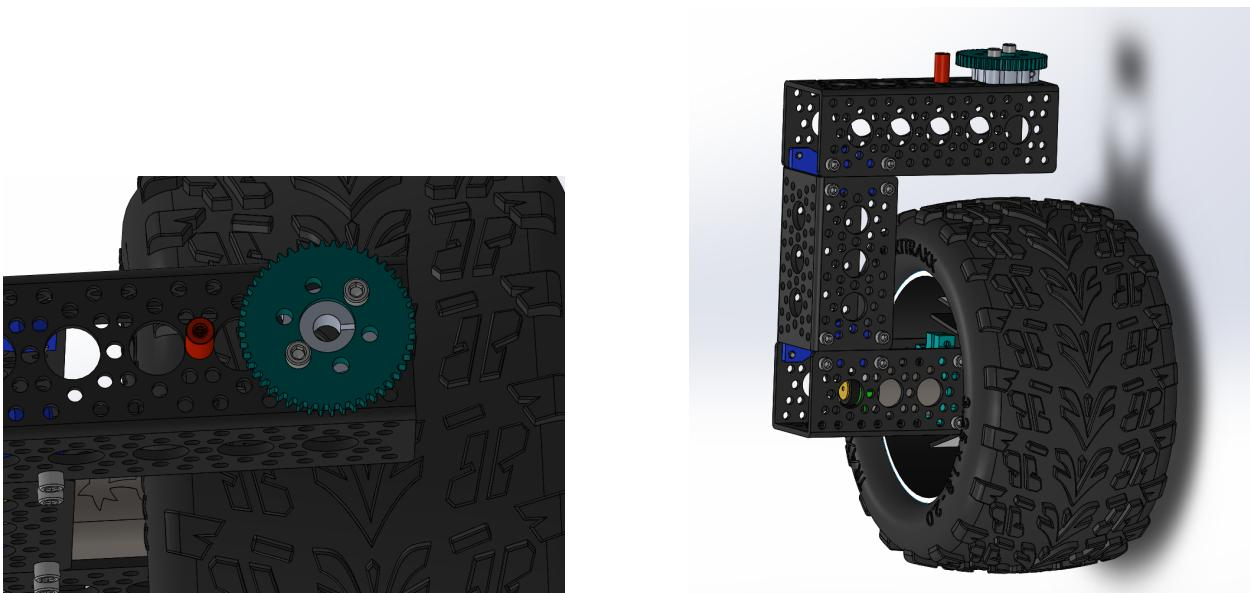

Figure 8: Corner Wheel Step 3
4. **Hard stop mount** In order to keep the wheels from spinning too far in either direction, we will install a physical hard stop in the system. Attach a standoff **T3** with screw **B1** and Loctite Threadlocker **S34** to the channel as shown in Figure 8. This standoff will be our hard stop. Make sure that you use the correct mounting hole or the standoff will not line up with the hard stops on the encoder mount.